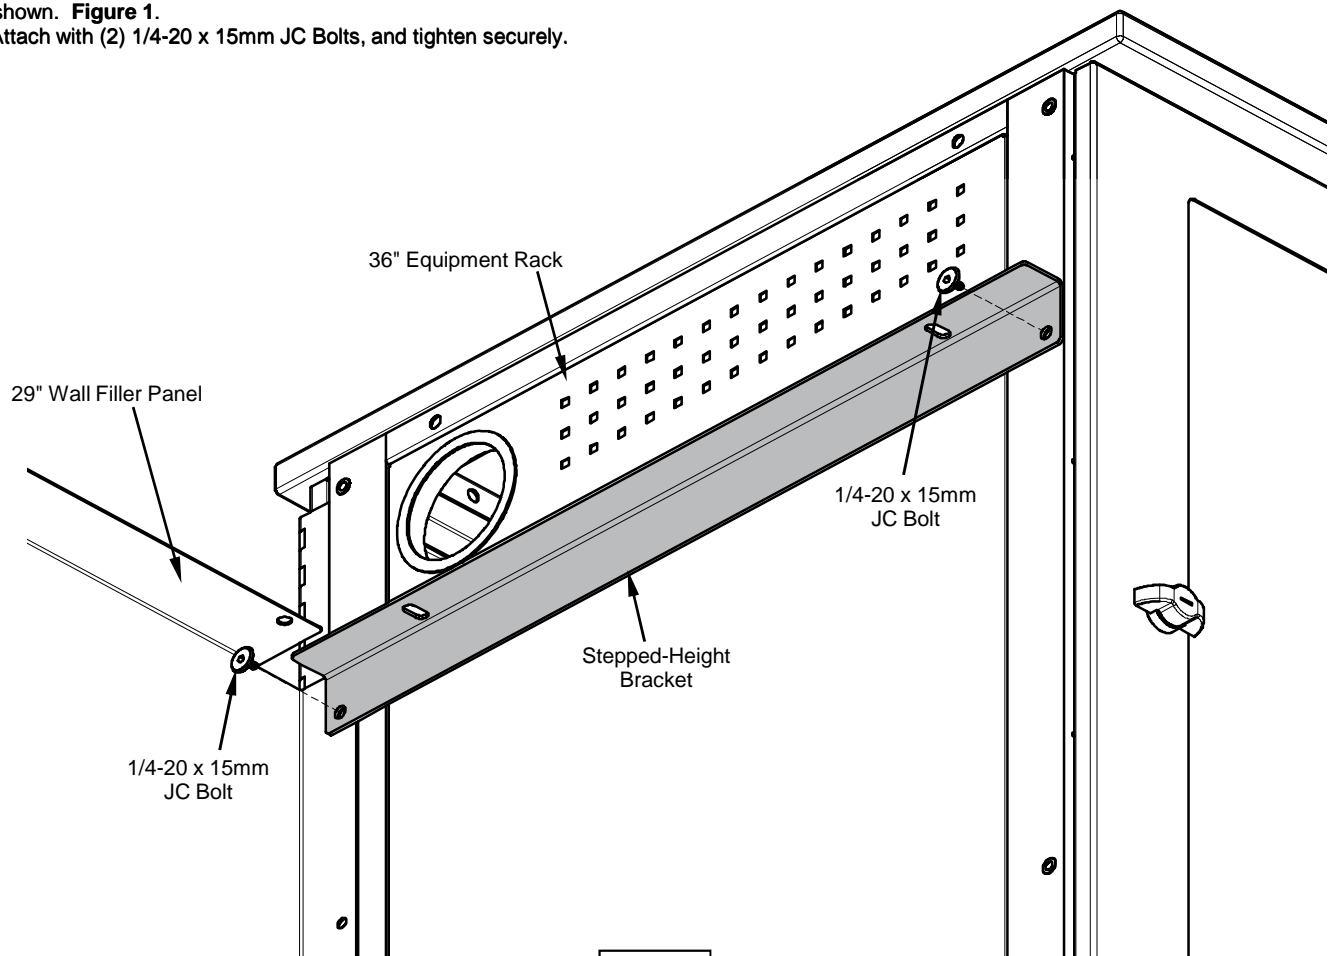

Figure 1
- Align the bracket with the (2) mounting holes in the side of the 36"H equipment rack as shown. **Figure 1.**
- Attach with (2) 1/4-20 x 15mm JC Bolts, and tighten securely.